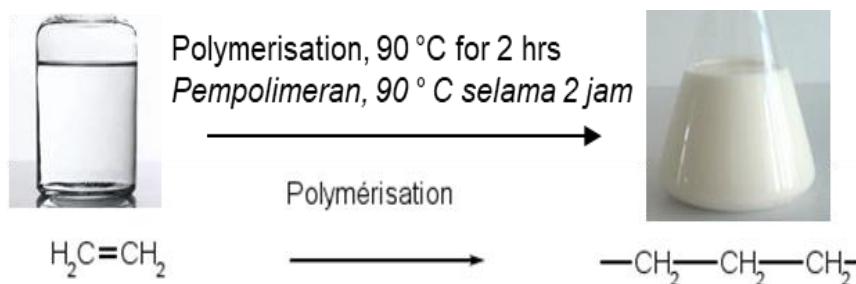

Figure 2: Polymerization process for polymer X
- (2). Figure 2 illustrates the formation of polymer X repeat unit through a polymerization reaction.
- (a). Describe the reaction scheme for the synthesis of polymer X in Figure 2 through addition polymerization. State the mechanism of the reaction.